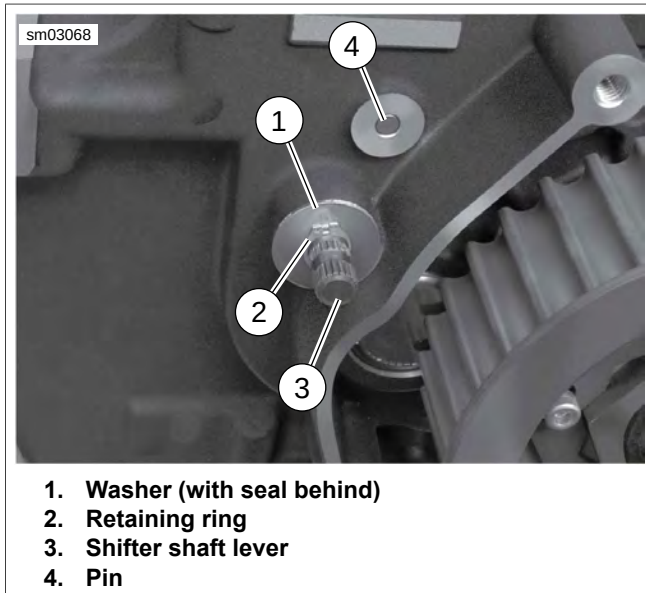

Figure 6-54. Shifter Shaft Lever, Exterior View
5. See Figure 6-54. Insert the assembly into the transmission case.
7. See Figure 6-54. Install a **new** seal. Install washer (1) and a **new** retaining ring (2).